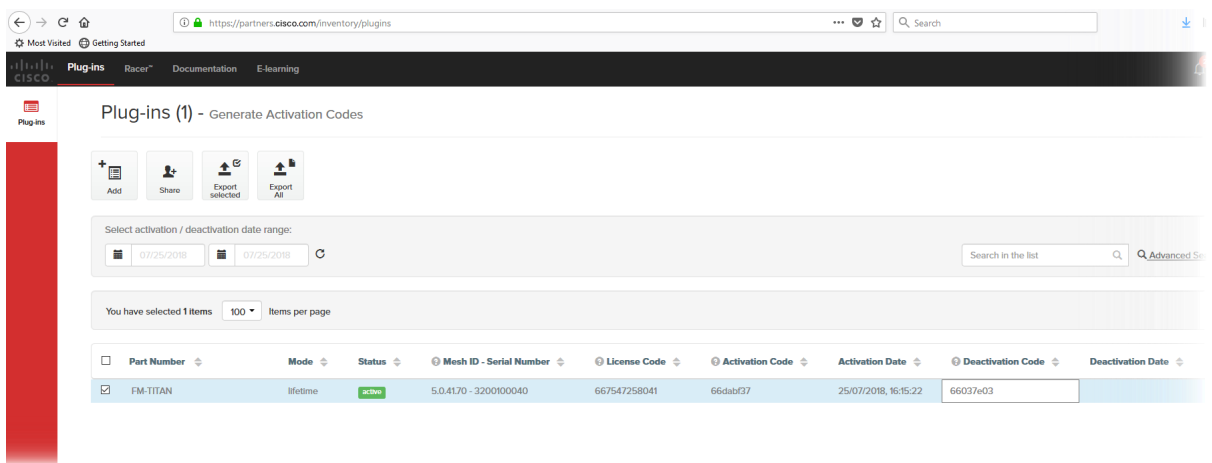

Figure 70. Partner Portal Plug-ins page (deactivation code entry)
8. Enter the Deactivation code for the plug-in in the Deactivation Code field (Figure 70 (page 149)).